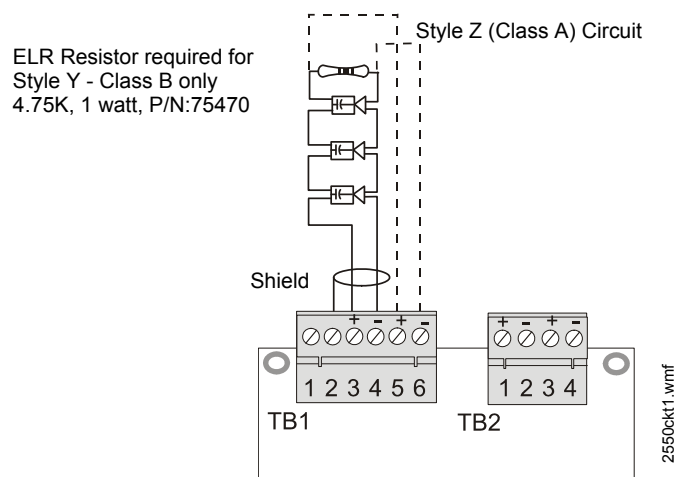

Figure 3.12 Speaker Circuit Connections
8. Connect field wiring to newly installed amplifier. Refer to Figure 3.12 on page 52 for illustration of speaker connections if amplifier is being used to expand system power to 50 watts (i.e. providing dual 25 watt speaker circuits). Figure 5.2 on page 81 for illustration of connections if amplifier is being used as a backup.